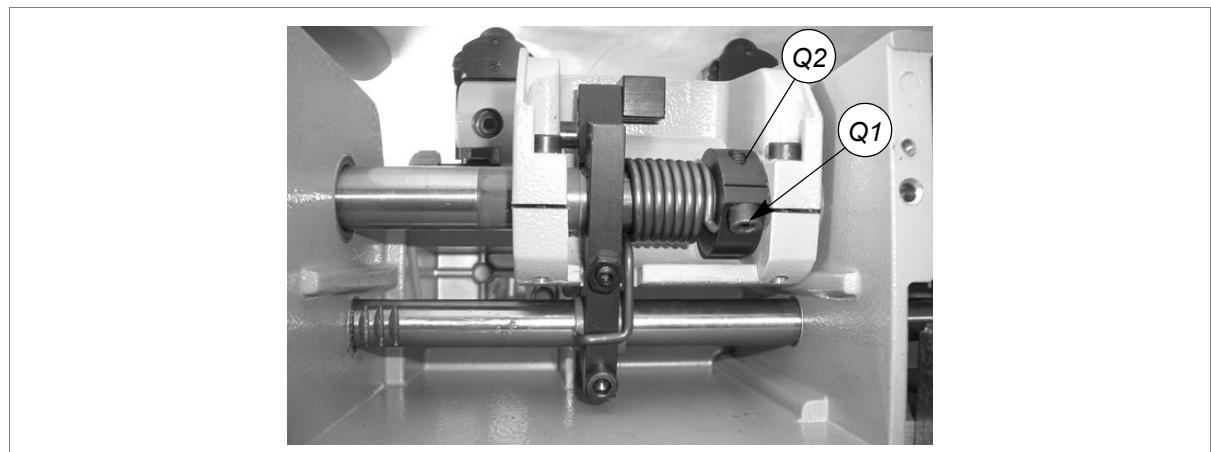

Fig. 52
- 13) Loosen the screw (Q1) on the spring ring nut (Q2) (fig. 52, page 32).